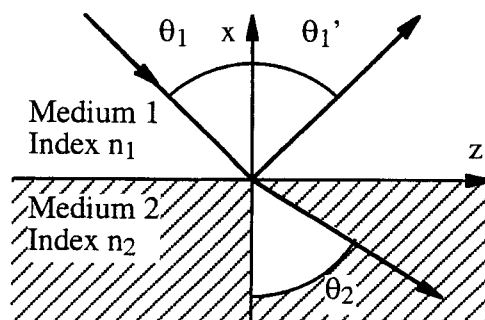

Figure 1.
- 2a) Figure 1 shows a plane wave incident at an angle θ_1 on the boundary between two dielectric media of refractive indices n_1 and n_2 . Write down the laws relating the angles of the incident, reflected and refracted waves. Derive an expression for the critical angle θ_c , and calculate θ_c for the case when $n_1 = 1.51$ and $n_2 = 1.5$.